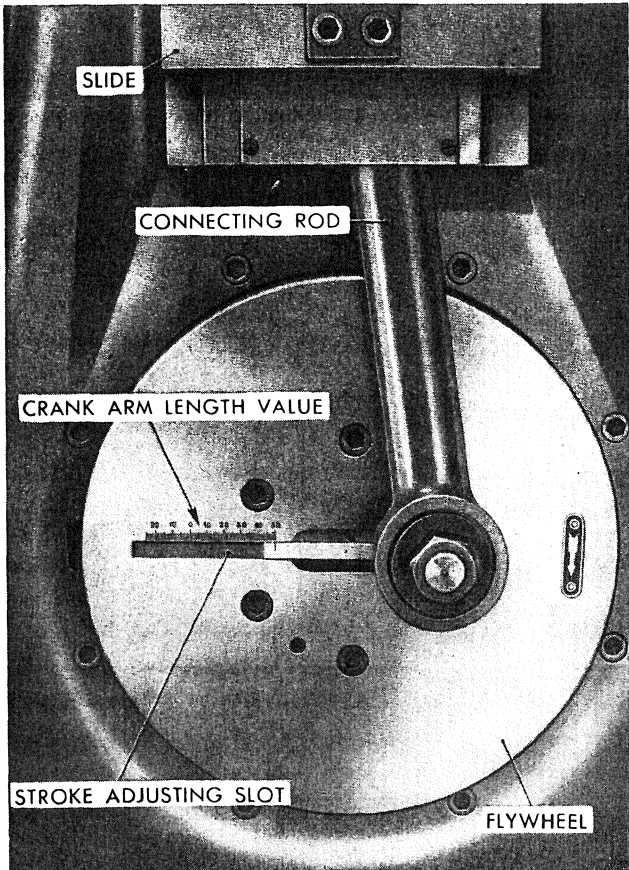

Fig. 322 - Detail of the shock absorber operation tester A. 76003.
- b) Adjust test stroke at 3.937" (100 mm) (fig. 322).